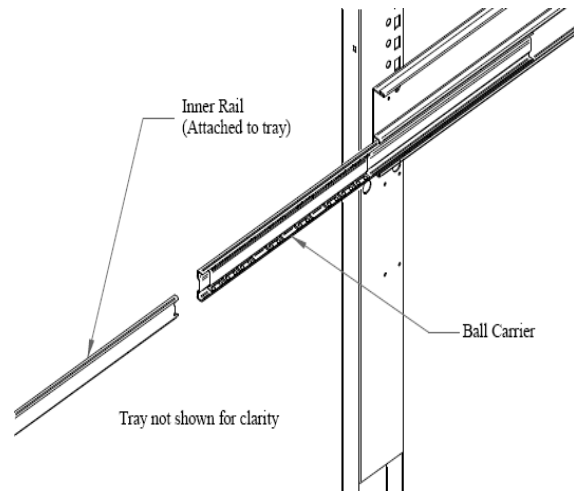

Figure 5.1 Bottle Tray Rails
2. Move the ball carriers out to the ends of the slide rails (See Figure 5.1) and hold in position.